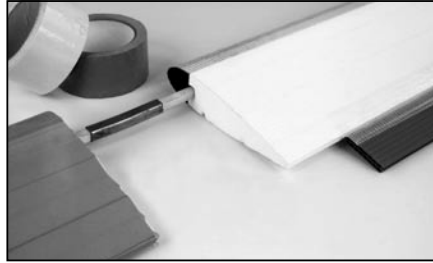

fig. 6
- ▼ 3. The spar assembly can now be inserted into each wing in turn ensuring that the servo cutouts are on the underside of the wing (see fig. 6). Hold the two wing halves together by wrapping a piece of Bullet tape around the joint.